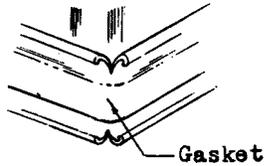

Fig. 13
- (b) Cut each corner of gasket about 1/8" deep as shown in Fig. 13.